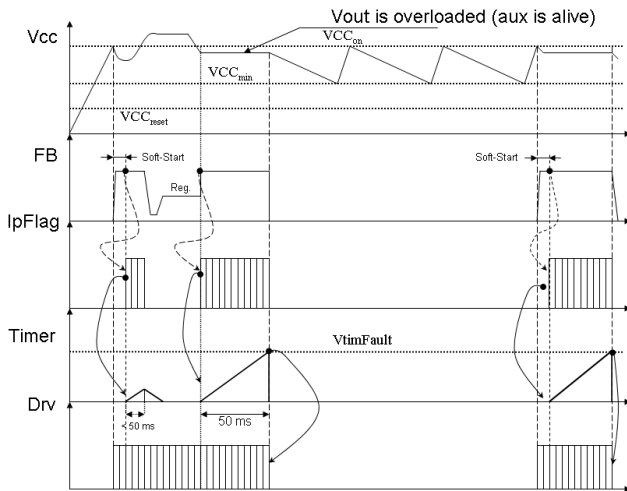

Figure 21. Short-Circuit Case Where Vaux Does NOT Collapse on Version B
2. In the second case, the converter operates in regulation, but the output is severely overloaded. However, due to the bad coupling between the power and the auxiliary windings, the controller  $V_{\text{CC}}$  does not go low. The peak current is pushed to the maximum, the error flag IpFlag is consequently asserted and the timer starts to count. Upon completion, all pulses are stopped and triple-startup hiccup mode is entered for version B. If the fault goes away, the SMPS resumes operation (Figure 21). For version A, when the timer finishes counting, the pulses stop and the circuit stays latched until the user cycles down the power supply (Figure 22).